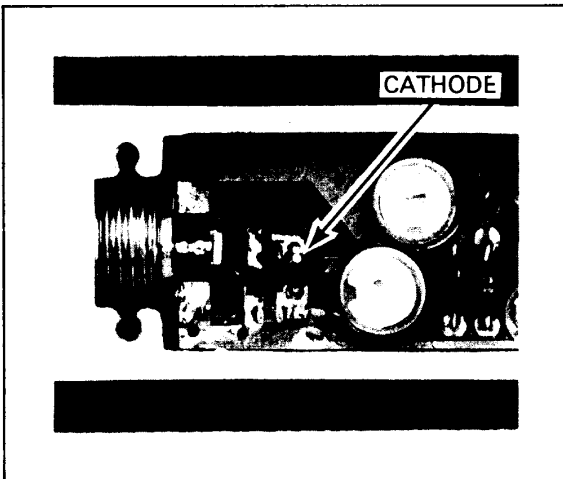

Figure 7-25. Model 560-71N75 With Detector Diode Shown
- b. Unplug diode (Figure 7-25) from circuit board and remove from detector.
- k. Orient replacement diode so that white dot (cathode) is positioned as shown in Figure 7-25. Insert diode into socket on A1 PCB.